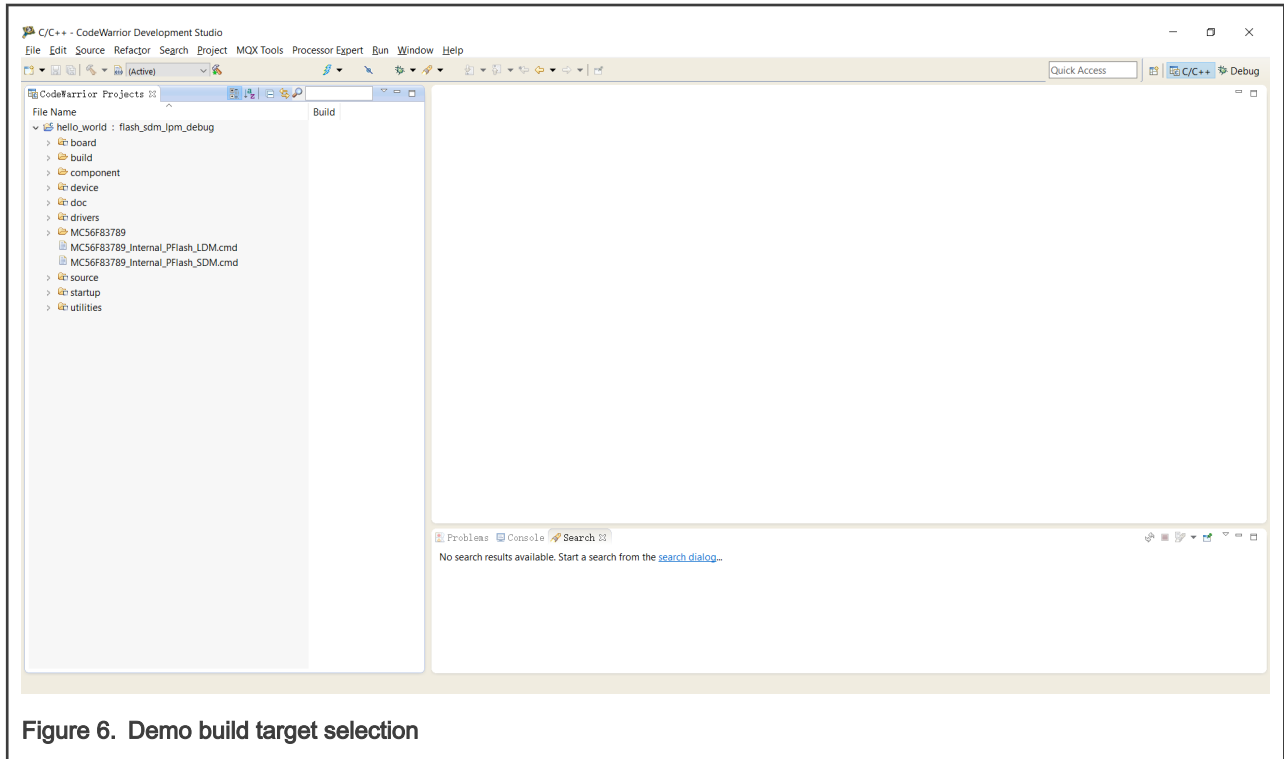

Figure 6. Demo build target selection
3. Select the desired build target from the drop-down menu. For this example, select **hello_world – flash_sdm_lpm_debug**, as shown in Figure 6.